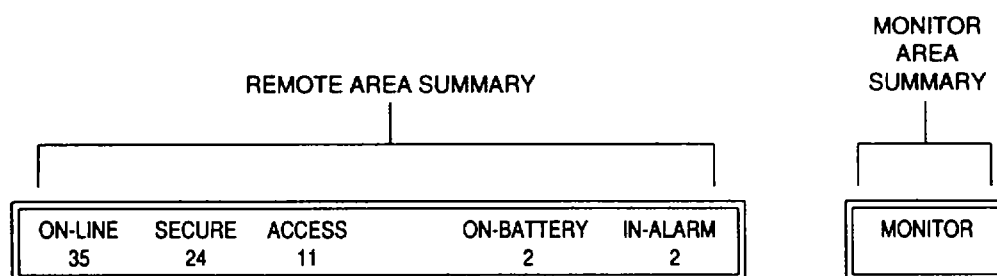

Figure 1-5 System Summary Area (Typical).
1.15.2.1 System Summary Area. The system summary area (figure 1-5) is located at the top of each Secure Mode and Setup mode screen. It consists of two boxes and is always displayed on each screen. The system summary area is broken down into two sub groups. The two sub groups are the remote area summary and the monitor area summary.